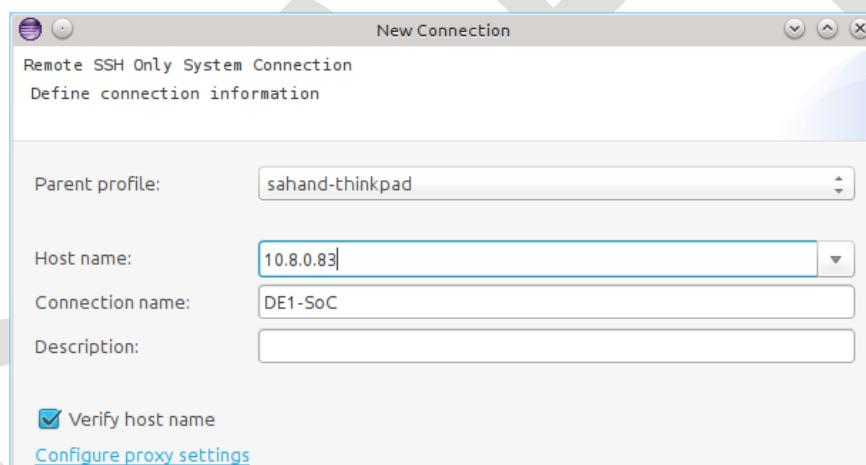

Figure 8-47. New SSH Only Connection
15. Enter “DE1-SoC” as the “Connection name”. You should have something similar to Figure 8-47.